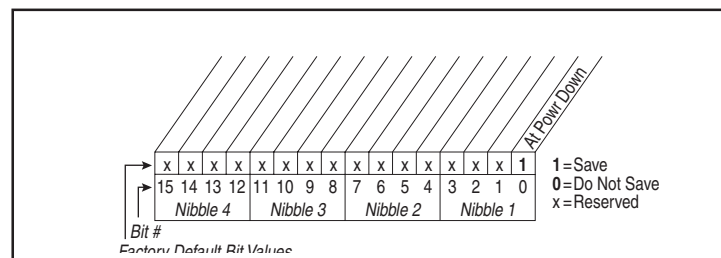

Figure 11.14 – Save OIM Ref (192)
**Range:** See figure 11.14
**Default:** See figure 11.14